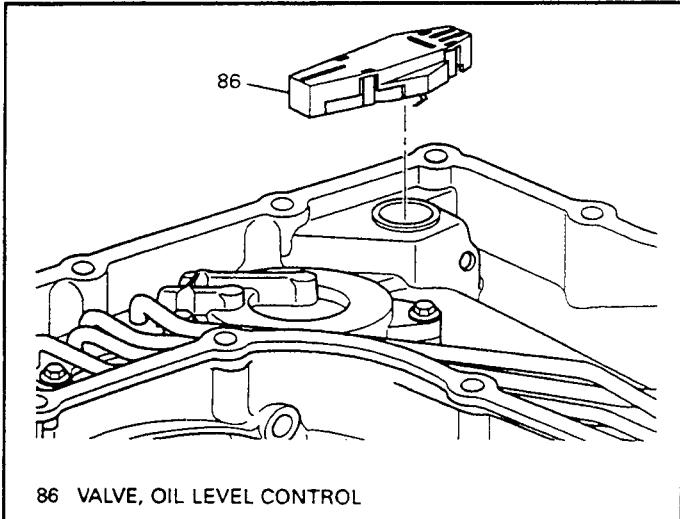

Figure 198
1. General Motors recommends that the oil level control valve (86) be replaced if it is removed. The oil level control valve can be reused if the retaining tabs on the bottom are not bent and still have the ability to retain it in the case bore (See Figure 198).
2. Install the oil level control valve into transaxle case bore as shown in Figure 198, by pushing down on oil level control valve where it says "**PRESS HERE**".